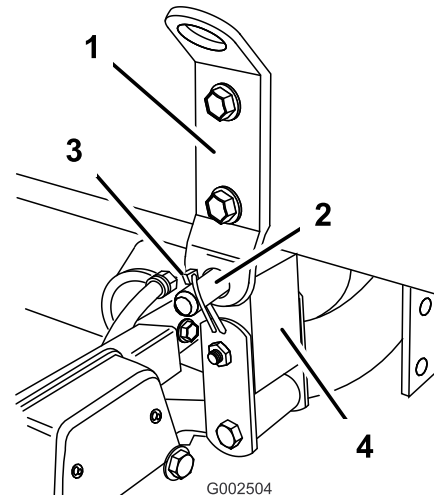

Figure 21
- Line up the pivot lug at the rear of the tank skid assembly with the opening at the end of the vehicle frame (Figure 21).
- Install a clevis pin (3/4 inch) and two lynch pins to the pivot lug to secure the tank assembly to frame (Figure 21).
- Check the alignment of the tank skid and the vehicle frame. If necessary, loosen the bolts securing the pivot lug to the tank skid frame slightly (Figure 21). Raise the tank assembly just enough above the vehicle frame to be aligned and lowered into proper position. Tighten the bolts on the pivot lug once the tank skid is aligned with the vehicle frame.